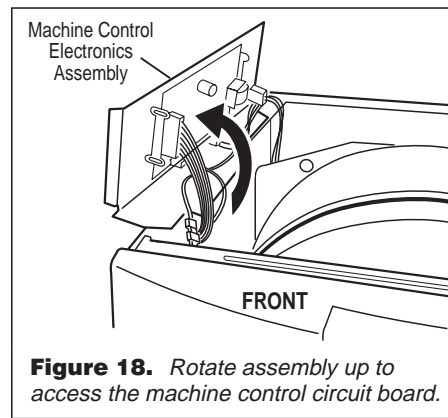

Figure 18. Rotate assembly up to access the machine control circuit board.
2. As you remove the assembly from its mounting position, rotate the assembly up to access the machine control circuit board, and set it on the side panel. See figure 18.